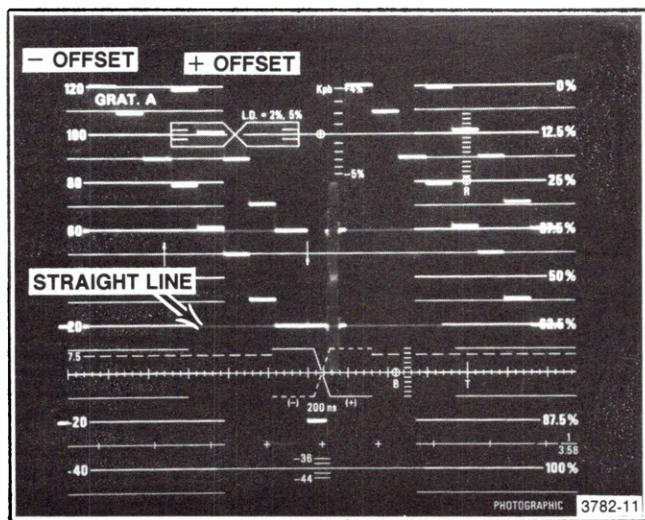

Fig. 2-2. Measuring luminance gain with the VAC.
- e. Use the VAC Variable to match the Sync tip to the reference level (see Fig. 2-2). Greater resolution can be obtained by setting the 1480 Volts Full Scale to 0.5 or 0.2.
- CHECK—duration of the W,Q , and B portions of the $-I,W,Q,B$ signal (see Fig. 2-2) by placing each portion within the graticule area with the Delay Time Multiplier. Duration of each portion should be $9.4\ \mu s$ within 400 ns (9.0 – $9.8\ \mu s$).